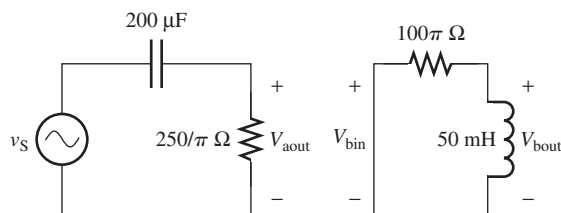

FIGURE P7.31 Circuit for Problem 7.31.
7.31 (A) What kind of combination filter is shown in Figure P7.31? Find the transfer function for the circuit between V_{bout} and V_{S} .